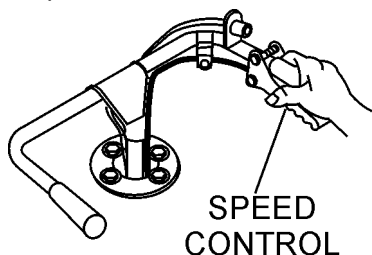

Figure 14. Speed Control Lever
5. Slowly squeeze the speed control lever slightly (Figure 14), for a short period of time to test the brake holding capacity. If the buggy moves forward, adjust the brakes as outlined in the maintenance section of this manual.
2. Squeeze the speed control lever (Figure 14) slightly until the buggy begins to move in a forward direction. Initially, let the buggy travel at about 3 MPH.